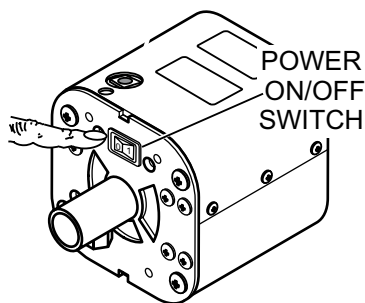

Figure 22. ON/OFF Switch
1. Before applying power, make sure that the Power ON/OFF switch (Figure 22) is in the OFF position.
4. Turn on the Power ON/OFF switch (Figure 22). The balloon will start to inflate and the lamp will turn on.